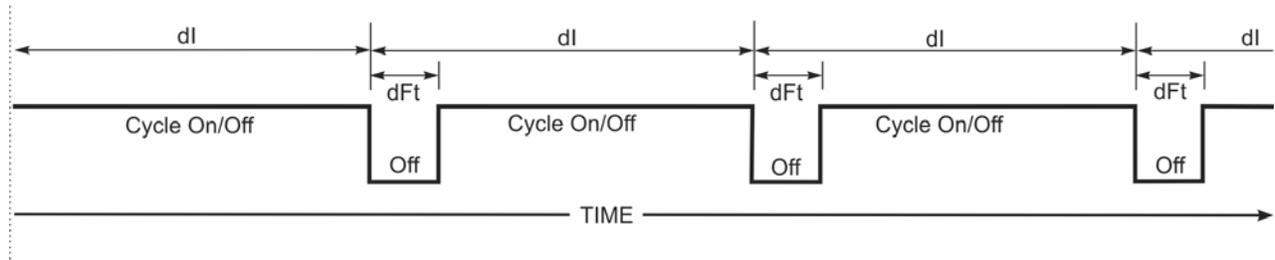

Figure 9: Typical Passive Defrost Cycle Behavior
2. Select a dFt value between 1 and 99 minutes. See Figure 9.